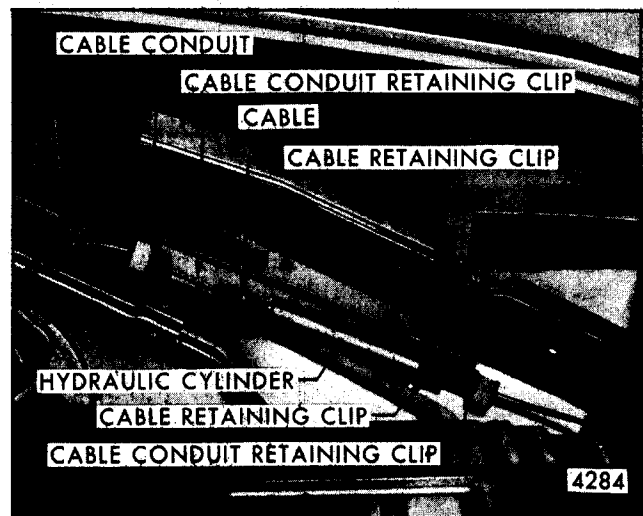
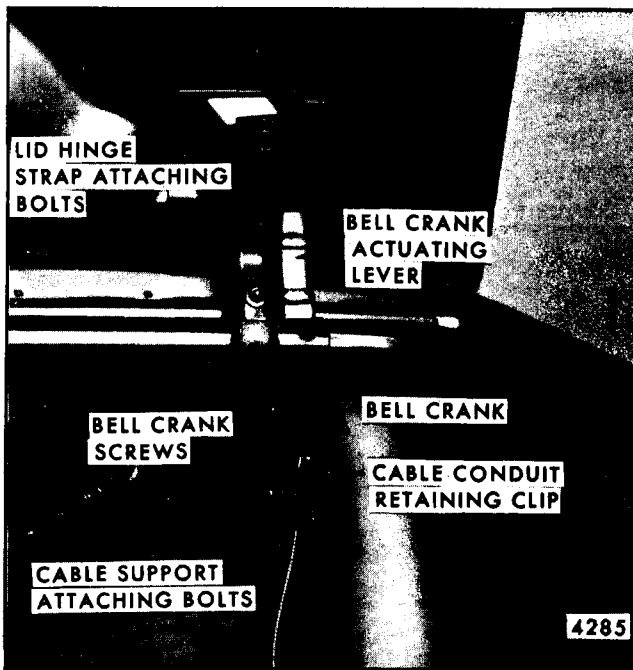

Fig. 8-12-Mechanical Pull-Down Unit Hydraulic Cylinder - Cadillac Styles
Fig. 8-13-Mechanical Pull-Down Unit
A hydraulic cylinder (Fig. 8-12) is incorporated in the mechanism to achieve a slow, uniform closing action. The cylinder is attached to a bell crank at the right rear compartment lid hinge and to the closing unit by a cable (Figs. 8-13 and 8-11). When the rear compartment lid is lowered to a point where the lock engages with the striker (approximately 7/8" from a fully closed position), a piston forces the fluid through
NOTE: To disengage cable from bell crank (Fig. 8-13), remove cable conduit support attaching bolts and rotate cable assembly to disengage eye on end of cable from bell crank.
1. Disengage cable to hydraulic cylinder retaining clips at both ends of cylinder (Figure 8-12) and remove cylinder.
4. With aid of helper, remove attaching bolts securing hinges to lid and remove lid (Fig. 8-13 depicts hinges for all styles).
1. Fore And Aft and Lateral Adjustment of the lid assembly is controlled by the hinge strap to lid attaching bolts. To adjust lid, loosen hinge strap to lid attaching bolts (Figure 8-13) and shift lid to desired position. Then, tighten bolts.